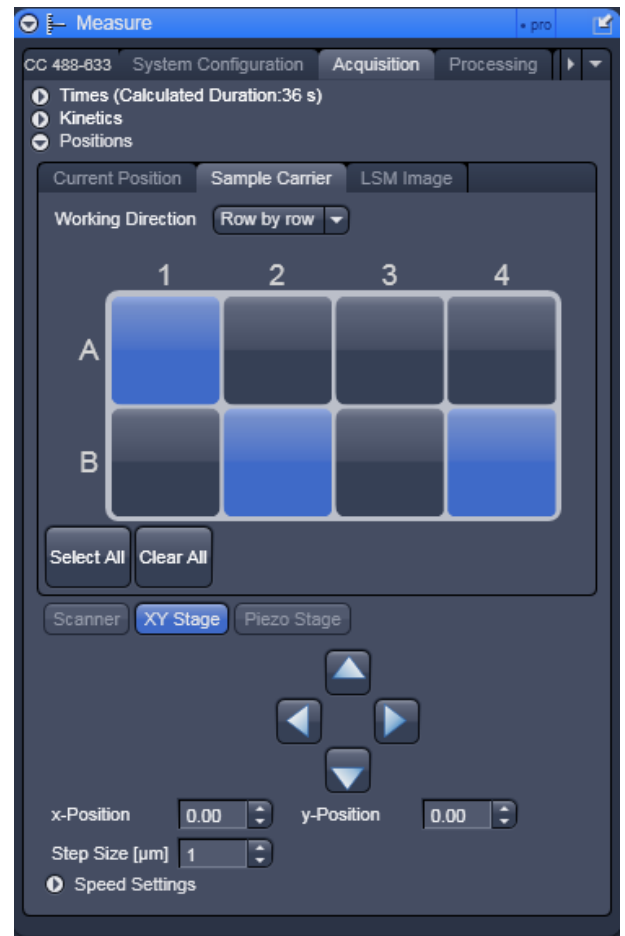

Fig. 9-42 Sample Carrier panel
- Orient a carrier in the **Carrier Position** tool. This will display the carrier (see Fig. 9-42). The current selected well will be highlighted in blue.
- Click on the **Sample Carrier** tab to open the **Sample Carrier** panel (Fig. 9-42).